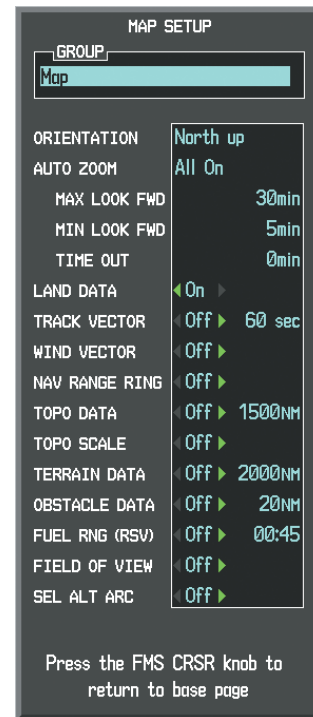

Figure 6-78 Navigation Map Page Setup Menu, Map Group
- 5) Turn the large **FMS** Knob or press the **ENT** Key to scroll through product selections (Figure 6-78).